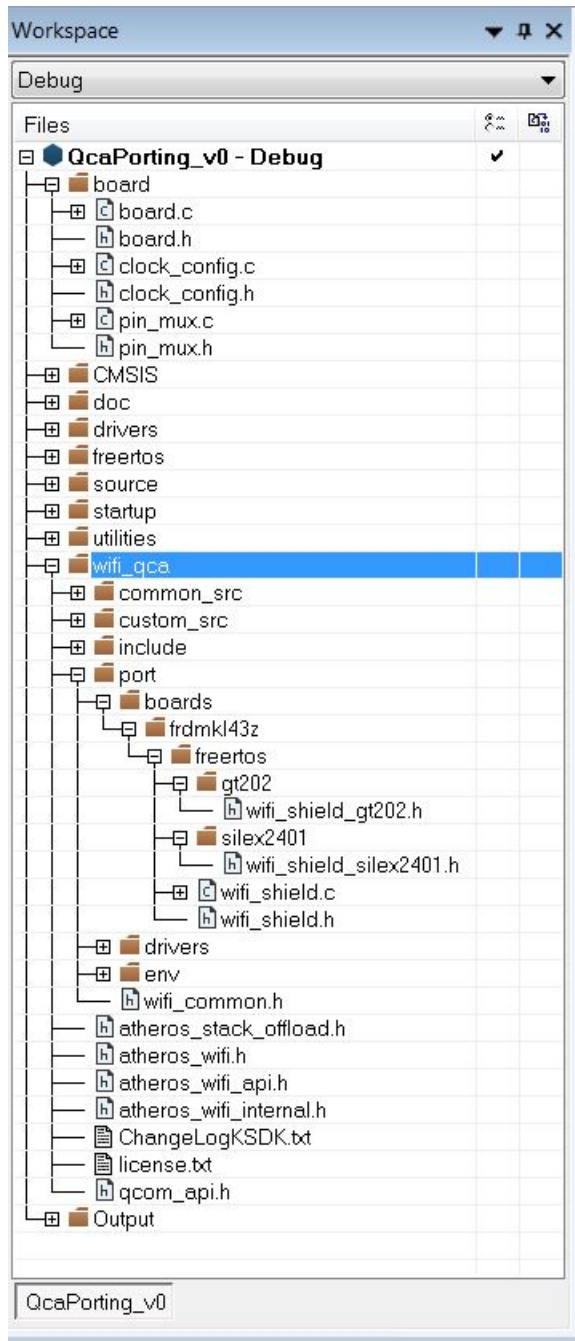

Figure 27. Workspace for standalone project
1. Open IAR using the Start menu. Then, open QcaPorting_v0 workspace or double-click QcaPorting_v0.eww. Figure 27 shows the new project structure. This has a slightly different folder structure when comparing with Linked Demo project.